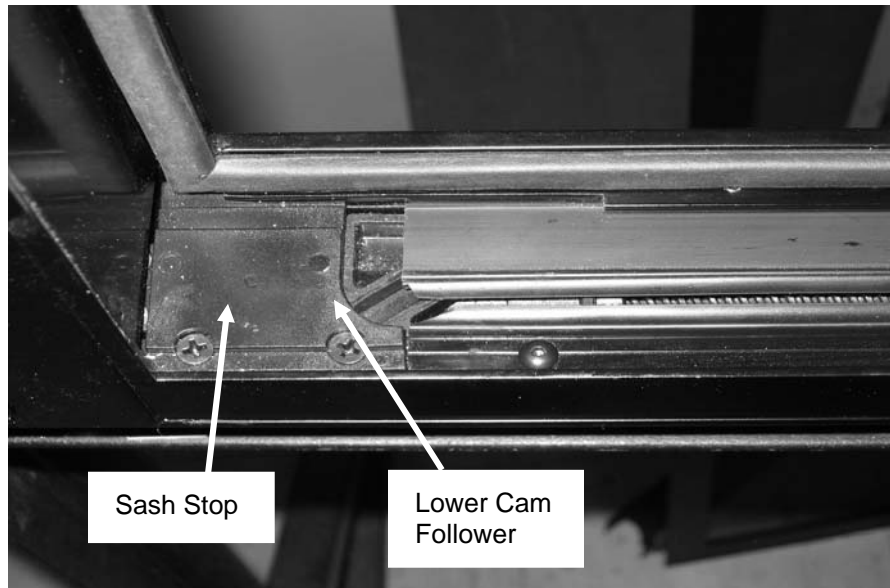

FIGURE 43: DISENGAGING THE BOTTOM OF THE SASH
2. Pull down on both release latches simultaneously and rotate the sash inwards approximately 10 degrees.(Figure 43)